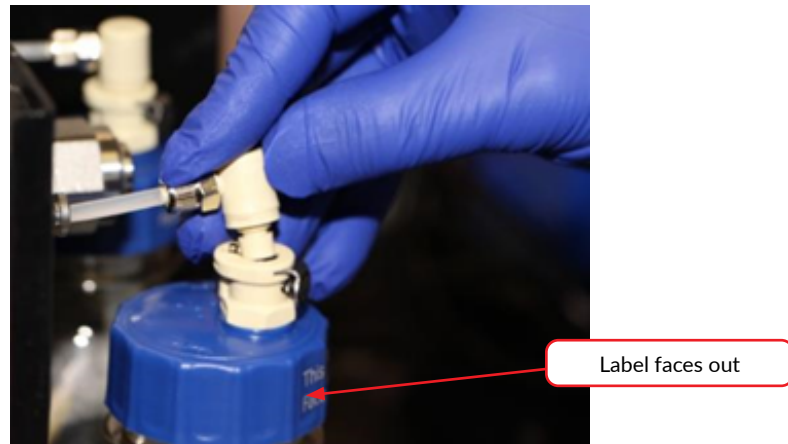

Figure D.6 Connecting the Bottle to the Water Works System
10. Orient the bottle in the Water Works Bay with the label on the Quick Disconnect Cap facing out, as shown in **Figure D.6**.